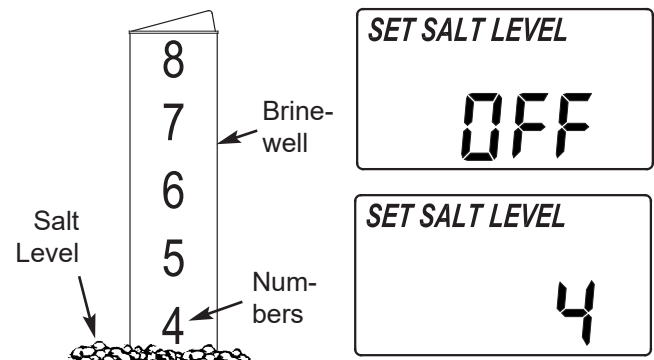

FIG. 24
2. The salt level scale, on the brinewell inside the tank, has numbers from 0 to 8 (See Fig. 24). Observe the highest number the leveled salt is at, or closest to.